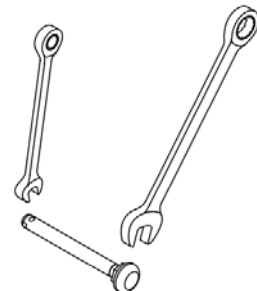

Figure 10.18: Quick release axle adjustment
- Using a 7/16" open end wrench, securely hold the detent ball end of the axle. (See Figure 10.18)